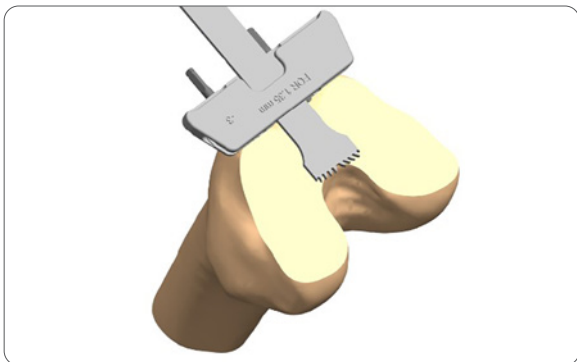

Figure 10
3. Resect the distal femur (**Figure 10**) then remove the distal femoral cutting block.